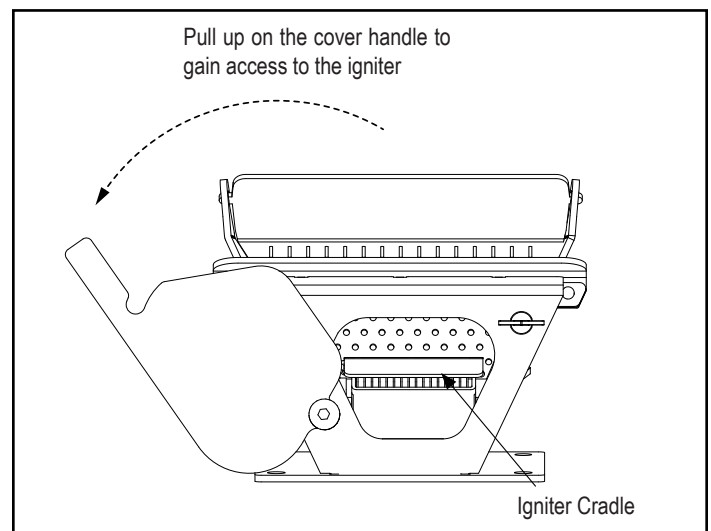

Figure 2.4 - Viewed from below through the ash pan opening.
- Loosen (1) wing screw and pull up on cover handle to gain access to igniter element and cradle. Figure 2.4.
- Using the brush supplied, brush the igniter element free of any ash or debris. Figure 2.4.